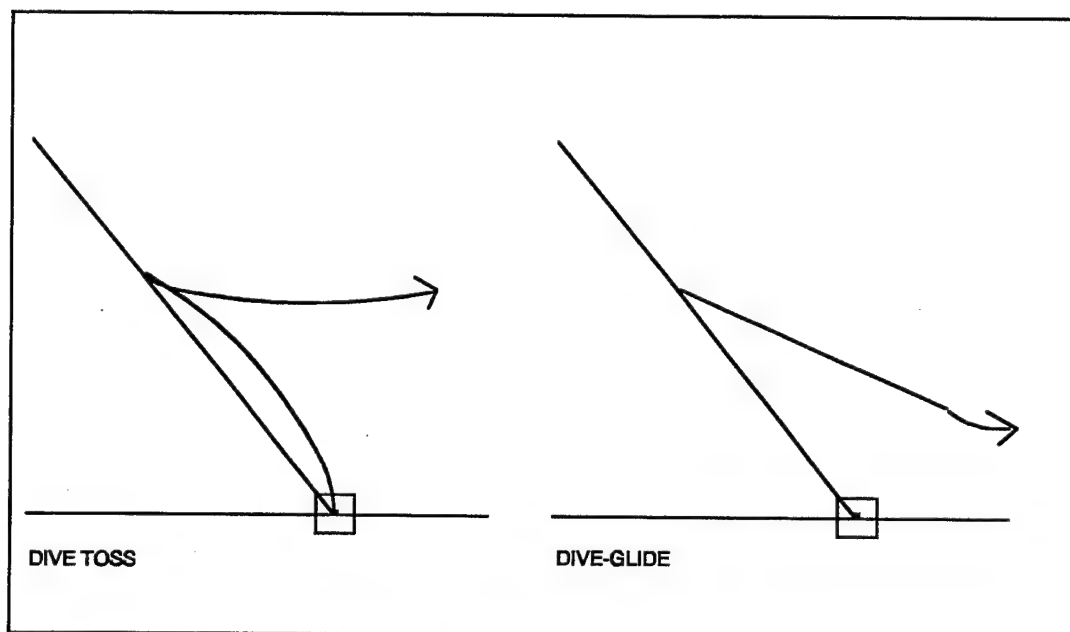

FIGURE 3.11 DTOS-Release Techniques
(2) With your eyes focused on the target, bring the TD box pipper smoothly up towards the target, reducing the rate of movement as it comes to bear on the chosen aim point. Track for a split second and designate with the pickle button or designate button. When you designate, the TD box becomes ground stabilized. Designating with the pickle button and holding it until release is the easiest method. If you do designate with the designate button, you'll have to depress the pickle button prior to the solution cue reaching the FPM. Hold the pickle button depressed until the solution cue intersects the FPM and the FPM begins to flash to indicate release. The FPM will continue to flash until you release the pickle button.
(3) Initiate a smooth, recovery-type pull keeping the FPM centered on the steering line. You can continue to pull into the true recovery which results in a "dive toss" delivery or you may relax the pull when the FPM is roughly 1,500 - 2,500 ft at 12 o'clock (See Figure 3.11). This will result in a "straight dive-glide" release. Theoretically, "dive toss" is as accurate as the "dive-glide" release. However, due to the possibility of an erroneous vertical accelerometer, the "dive-glide" technique may prove to be more reliably accurate.